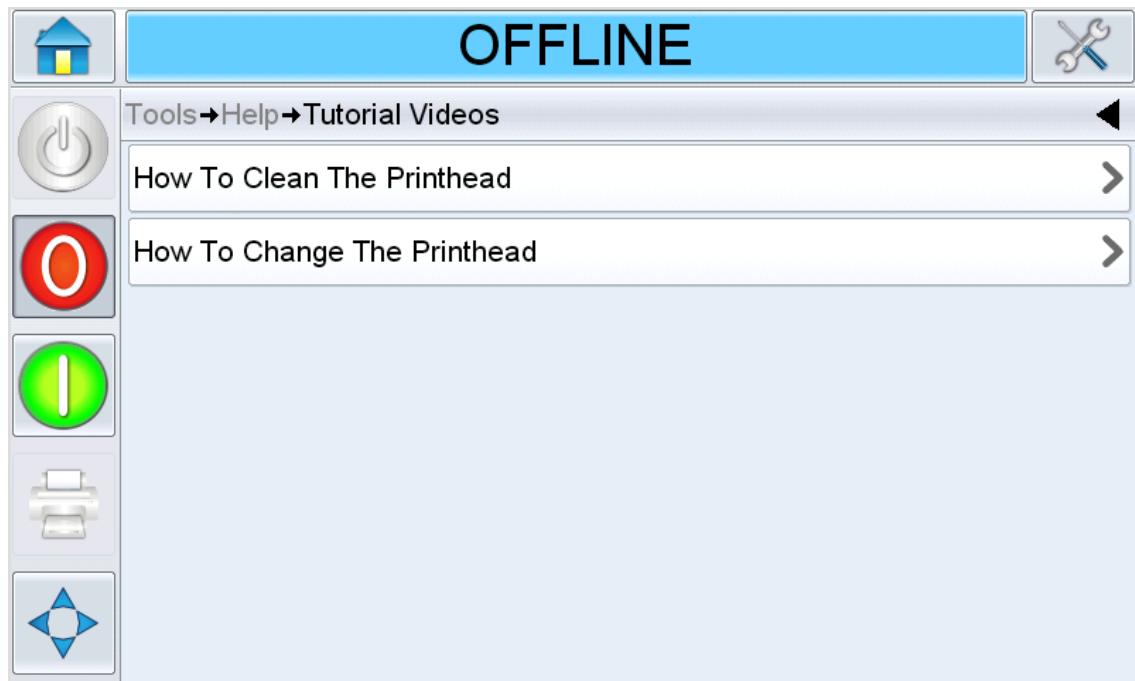

Figure 5-33: Tutorial Videos Screen
1. Touch Tutorial Videos on the Help screen to access the tutorial videos (Figure 5-33). Select the required video for specific task and basic troubleshooting.